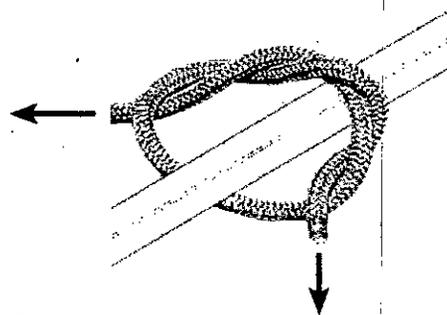

Figure 5
- a. Tie one end of the provided 9' rope to the link welded onto the stabilizer bar, just in front of the tree hugger. **Be sure your double knot is secure. SEE FIGURE 5.**
- b. Tie one end of each of the provided 15' ropes to the square tube side rails and tree blade frame, just in front of the welded on tree blade. **Be sure your double knots are secure. SEE FIGURE 5.**